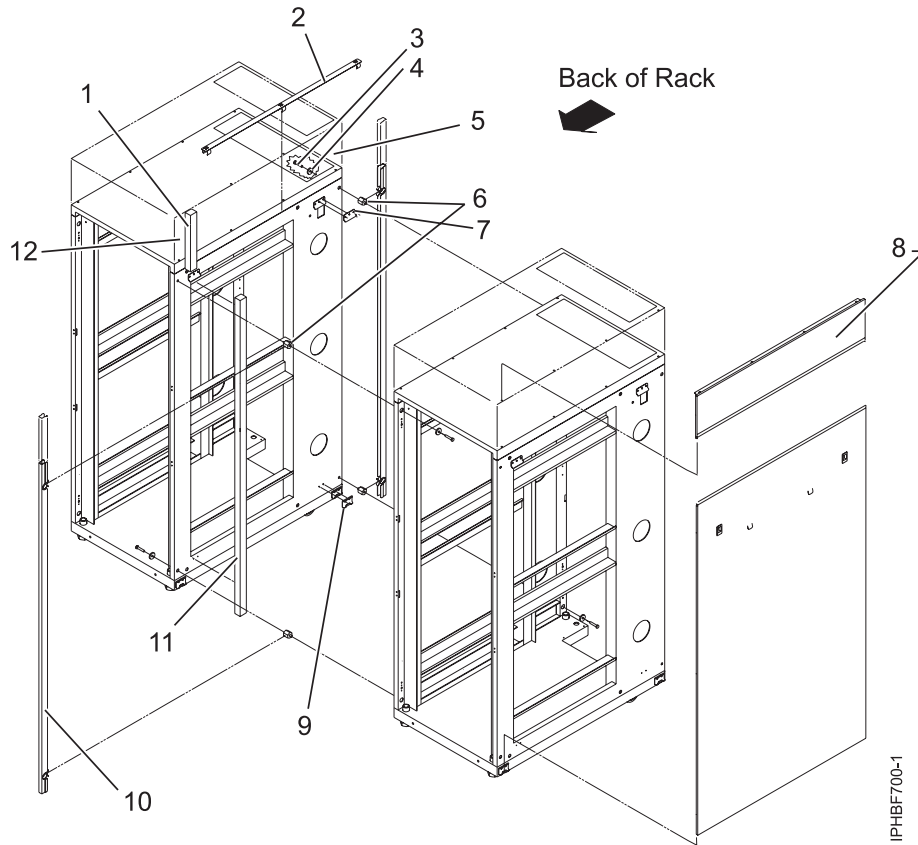

Figure 110. Removing the side panels, Z and J brackets, and installing standoffs and long foam to connect multiple racks
4. Install the first two standoffs in the upper-left and lower-right corners of the first rack as shown in Figure 110 on page 106.
5. Install the second two standoffs in the upper-left and lower-right corners of the second rack as shown in Figure 110 on page 106.
6. Attach the long foam as shown in Figure 110 on page 106. For a model T42 rack, join the short foam to the end of the long foam, and adhere it to the frame length of the rack.